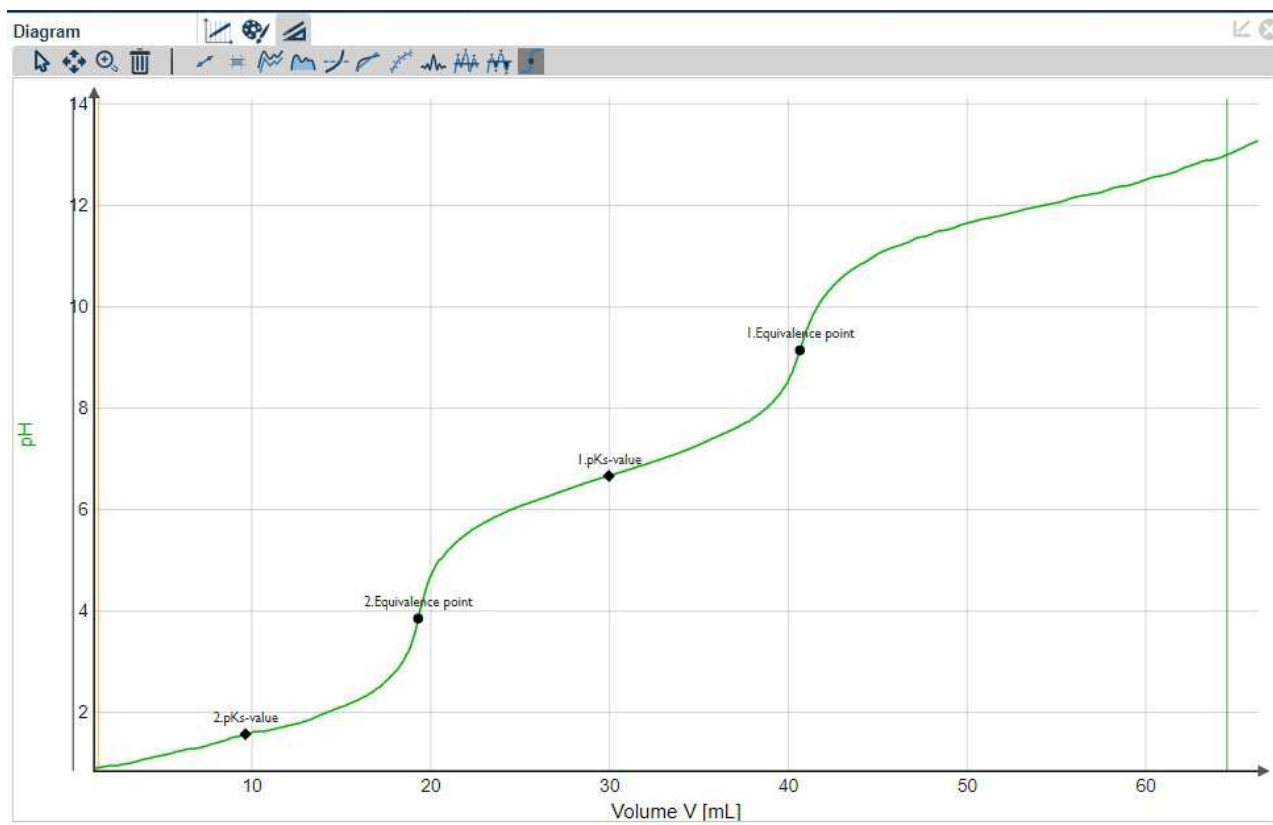

Fig. 4: Exemplary result
Fig. 4 shows the graph as presented by the programme, the measurement curve of a titration of 10 ml of 0.1 molar phosphoric acid with sodium hydroxide solution ($c = 0.1 \text{ mol/l}$). To have the equivalence points and pK_a values displayed use  in the top bar of the diagram.
- Fig. 4 shows the typical curve of a titration of a polyprotic acid against a strong base. The last equivalent point cannot be determined under the present experimental conditions.